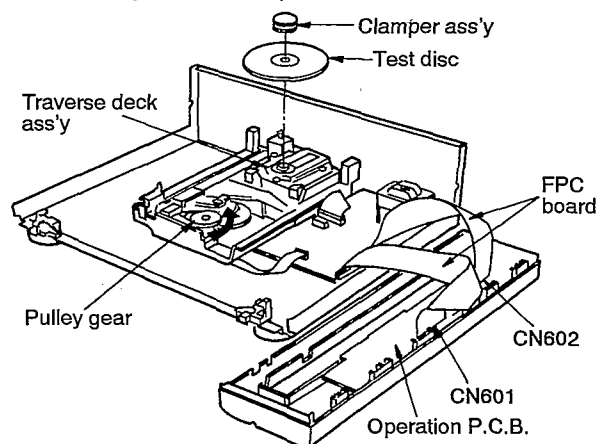

Fig. 2
11. Connect the 2 FPC board (CN601, CN602) as shown in Fig. 2.